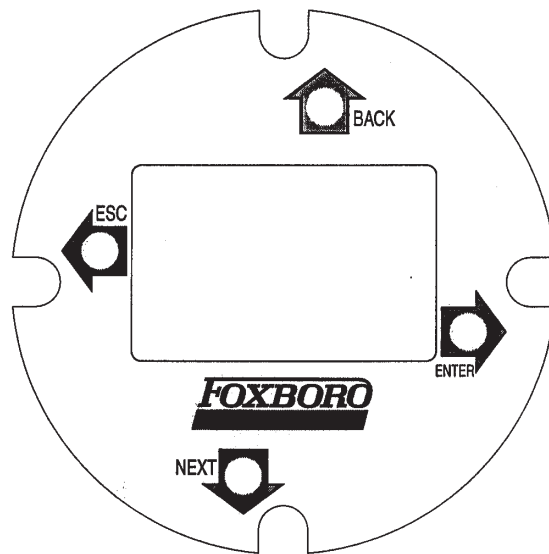

Figure 40. Local Display
1. Press the Left arrow key until the display reads **1 MEASURE** and follow the menu using the keys as explained in Table 10 and shown in Figure 40.
A local display, as shown in Figure 40 provides local indication of measurement, status, and identification parameters. The display also provides a means of performing quick start, configuration, calibration, and self-test. Operation is accomplished via four multi-function keys.